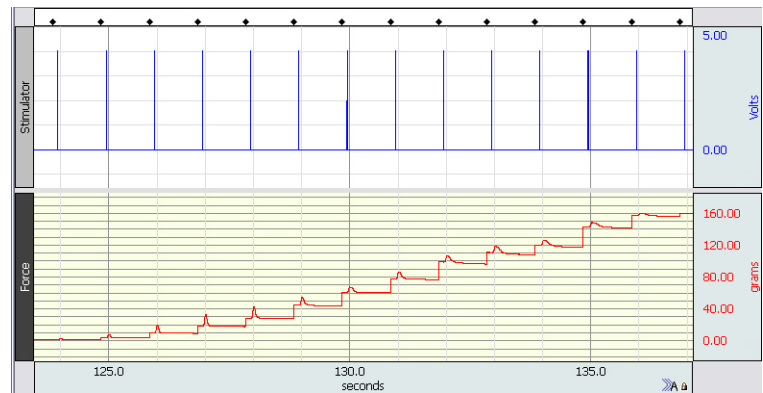

Figure 20
8. Continue to raise the force transducer (increase muscle length) by 1 mm, record and then add the length value onto the event marker label until the muscle fails to contract or the string slips off the muscle. When completed, the data should look similar to that shown in Figure 20.